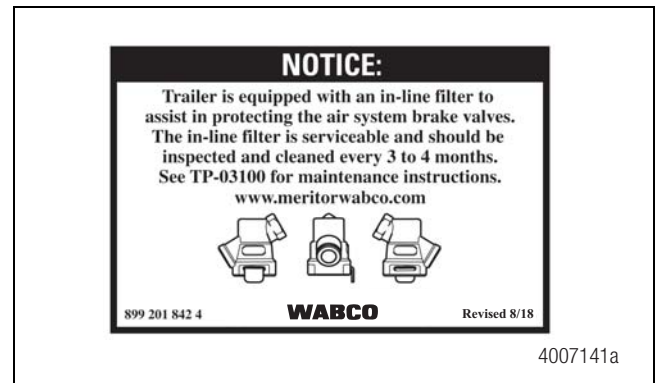

Figure 43
3. Affix the in-line filter label (part number 899 201 842 4) to the front of the trailer near the control (blue) gladhand. Figure 43.